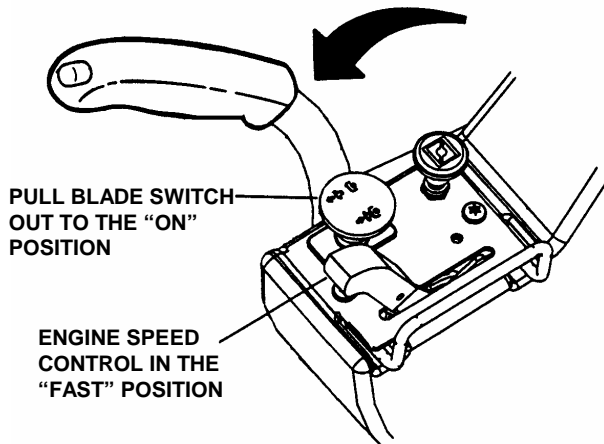

FIGURE 2.7
2. Pull the blade switch out into the "ON" position to engage the mower blades. See Figure 2.7.
3. Release the parking brake. See Figure 2.7.
1. Push the blade switch in to "OFF" position to disengage or stop the mower blades. See Figure 2.7.
3. Release parking brake by pushing button at the top of lever and moving brake lever forward to the "OFF" position. Refer Figure. 2.7.